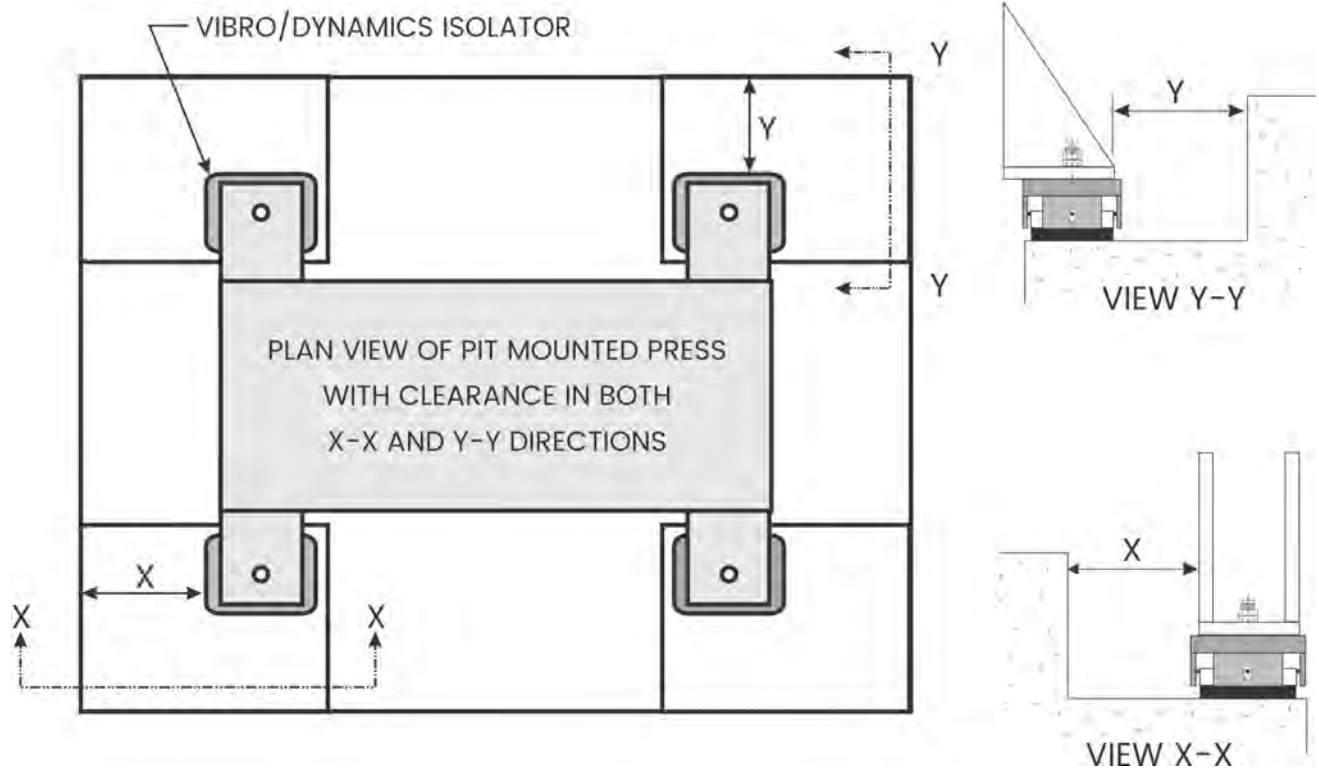

Figure 7
8. Clearance should be provided in at least one direction (X or Y) to allow for the installation and removal of the isolators. See Figure 7 and Table 5.